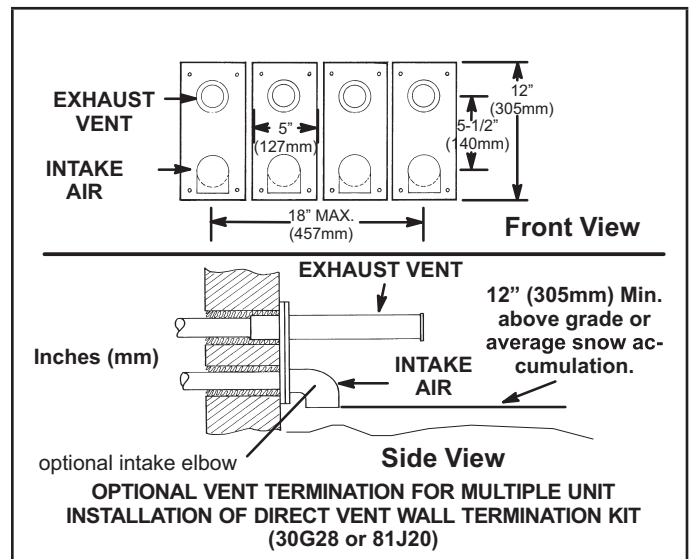

FIGURE 40
- 8 - A multiple furnace installation may use a group of up to four terminations assembled together horizontally, as shown in FIGURE 40.